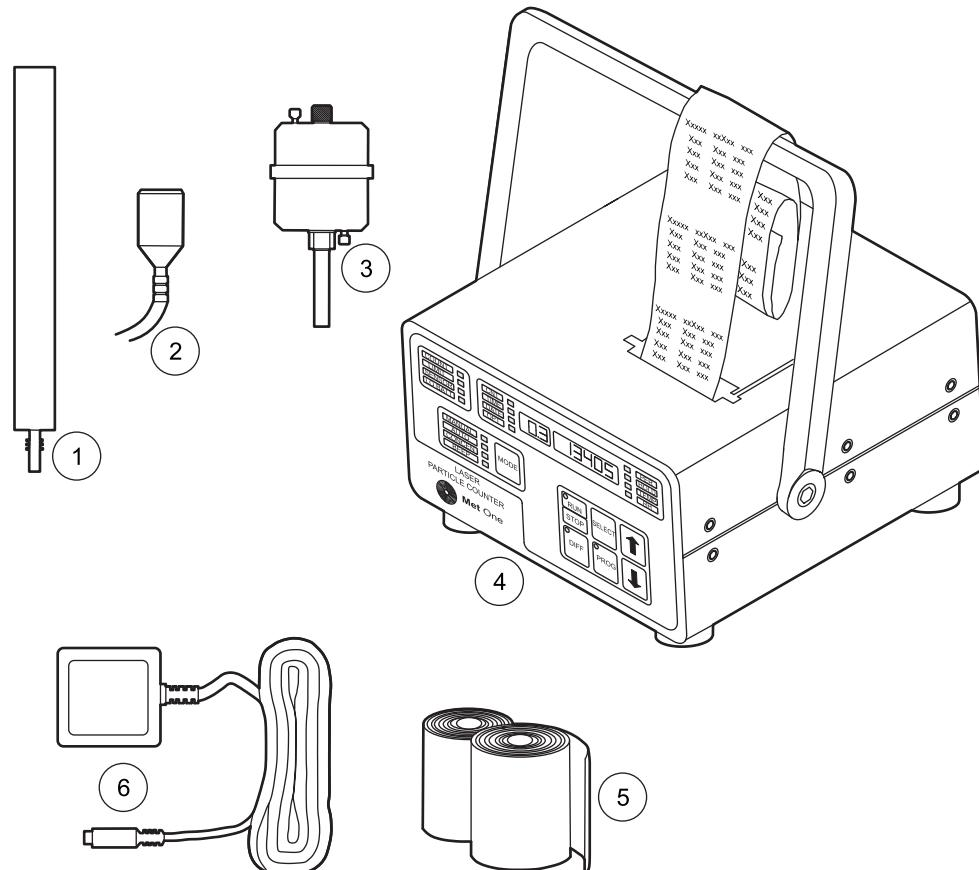

Figure 3 List of packaged items
Remove the components from the shipping container and inspect for damage. Verify that all items listed in Figure 3 are included. If any items are missing or damaged, contact the manufacturer or sales representative.
The isokinetic sample probes are used for accurate air sampling in particle counting applications. The isokinetic probe (refer to Figure 3 on page 9, item1 or item 2) is used in the laminar air flow for a flow rate of up to 100 feet per minute.
The purge filter (refer to Figure 3 on page 9, item 3) is used for maintenance (purge and zero count) of the MET ONE 237 particle counter. The purge filter permits direct sampling of pressurized air at pressures ranging from 30 to 150 psi.
The AC adapter (refer to Figure 3 on page 9, item 6) is used to charge the internal battery and use the MET ONE 237 particle counter with a standard 115 VAC outlet.